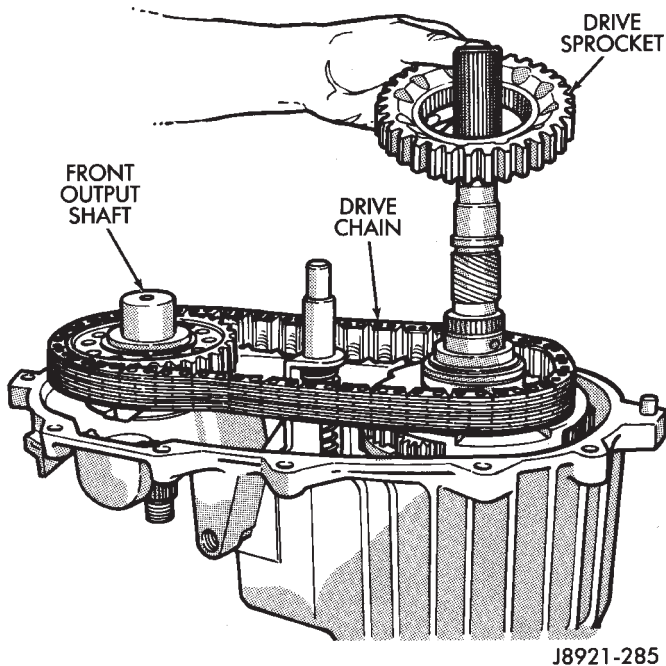

Fig. 68 Installing Drive Chain And Sprocket
- (50) Install front output shaft (Fig. 68).
- (51) Install drive chain (Fig. 68). Engage chain with front output shaft sprocket teeth.
- (52) Install drive sprocket (Fig. 68).
- (53) Engage drive sprocket teeth with chain. Then engage sprocket splines with mainshaft splines.